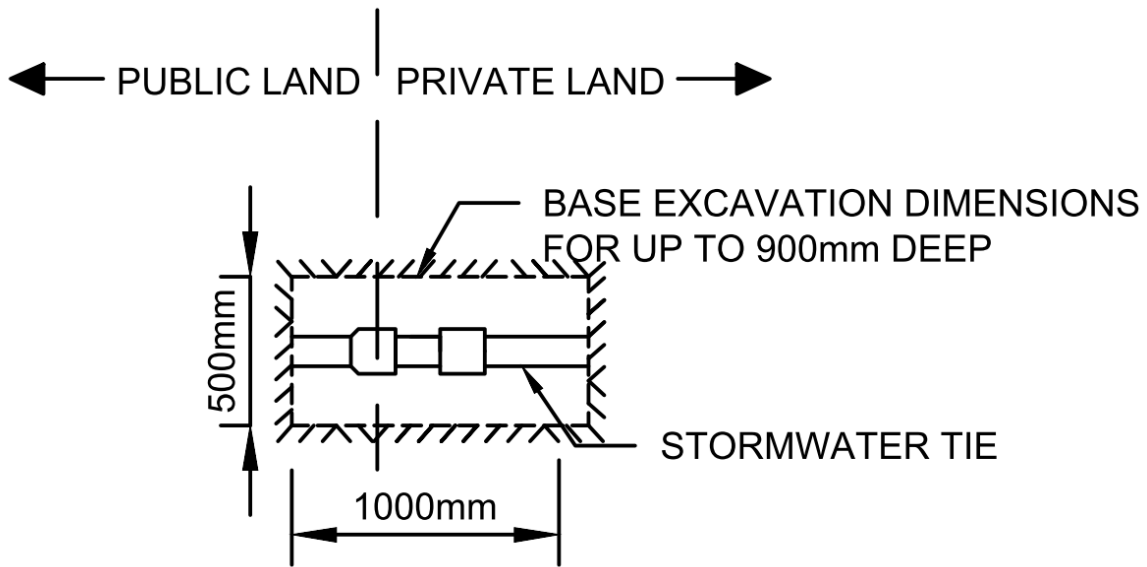

Figure 5 - Plan View of Excavation Base Size for 0mm - 900mm depth
- (a) Excavation depth of 0mm – 900mm should have a minimum 0.5 metre by 1 metre excavated base to expose the stormwater tie. See Figure 5 – Plan View of Excavation Base Size for 0mm – 900mm.